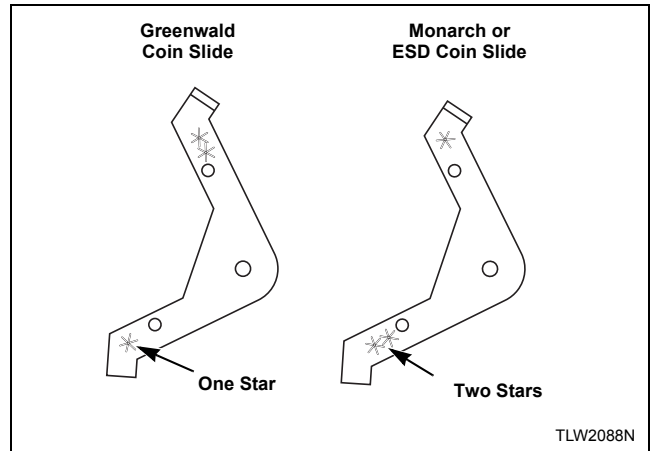

Figure 17
2. If installing a Greenwald coin slide, position extension lever (to be installed on extension bracket) with arm that has one star facing down. Refer to *Figure 17*.
3. If installing a Monarch or ESD coin slide, position lever with arm that has two stars facing down. Refer to *Figure 17*.